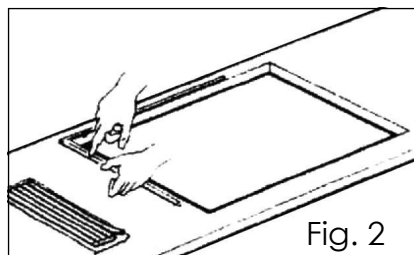

Fig. 2
- 1) Stretch out the seal along the edge of the opening, taking care to overlap the joining points (fig. 2).